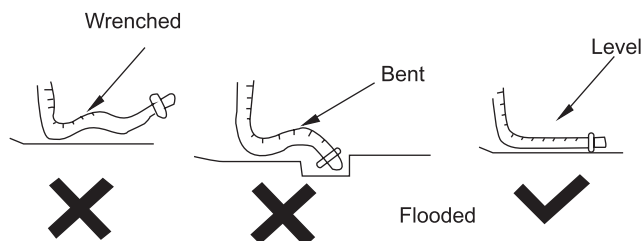

Figure 3
2. Do not wrench or bend the drain hose or flood its end by water. (Figure 3)